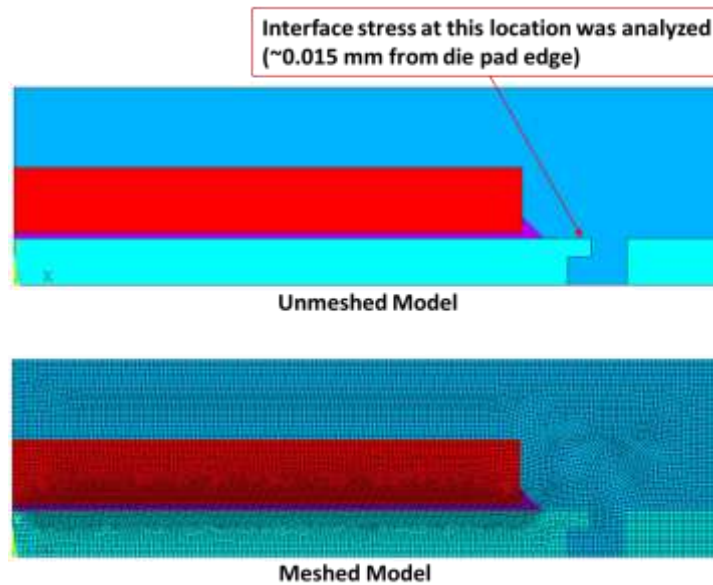

Fig. 3. Finite element model of the QFN package analyzed.
- Finite element modeling (Fig. 3) was used to study the relationship between DPR and interface stress.